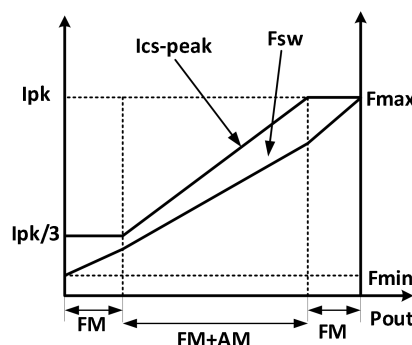

Fig.8. FM mode and AM mode
As shown in figure 8, in order to meet the demanding requirements of average efficiency and standby power consumption, the G1138P-S uses a combination of PFM control (FM) and PAM control (AM).